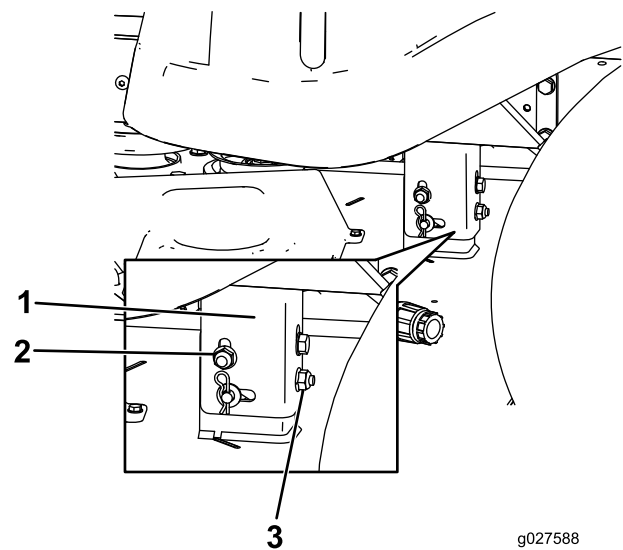

Figure 67
8. Raise or lower the left side of the mower deck by rotating the rear locking nut (Figure 67).
Note: Rotate the rear locking nut clockwise to raise the mower deck; rotate the rear locking nut counter-clockwise to lower the mower deck (Figure 67).